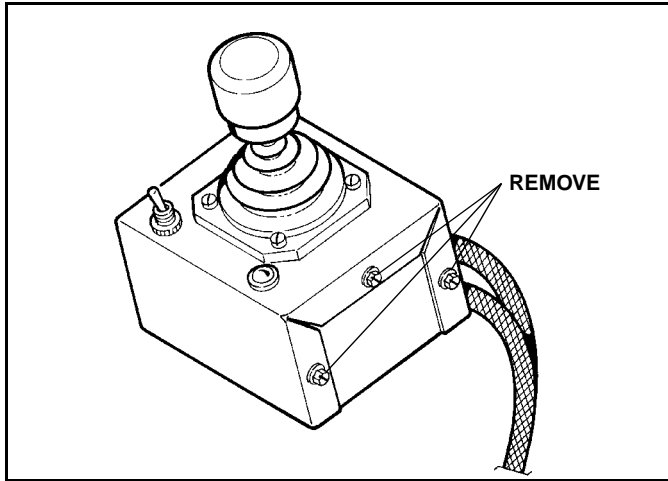

Figure 1-2
1. Remove the three hex slotted head screws from each side of the Controller Housing and remove the controller Housing Bottom Plate. (See Figure 1-2)